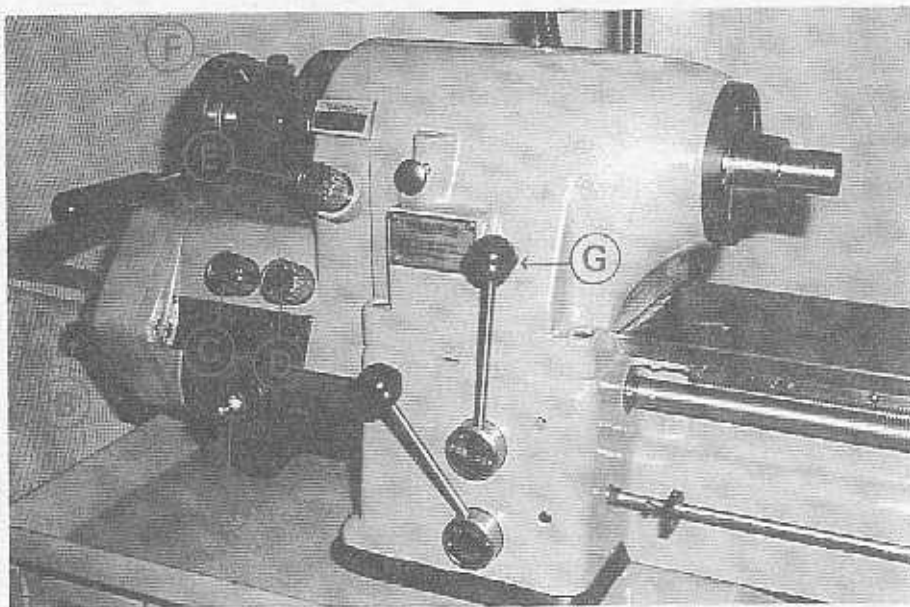
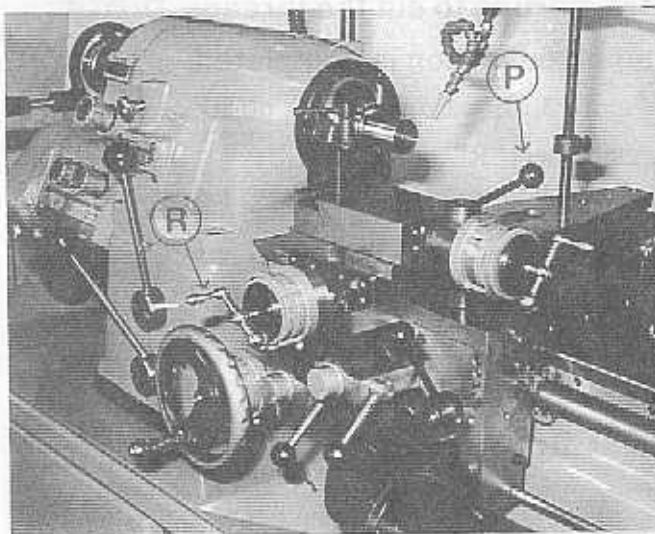
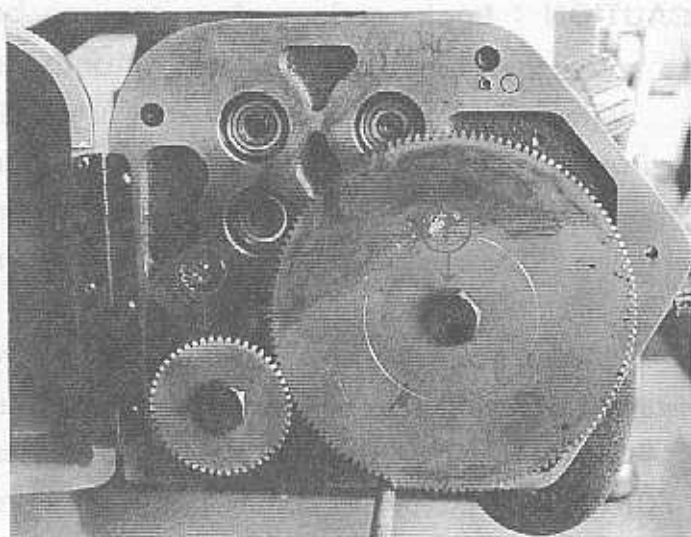

Figure 1 - Headstock and Gearbox
Figure 3 - Carriage and Compound Slide
Figure 4 - Threading Gearbox
Set the quick-change gearbox for desired pitch. To make a selection on the gearbox thread chart, pull the spring-pressured knob "A", Figure 1, out as far as it will go and lower it until it will move sideways to the desired notch directly under the thread required. Raise the handle and let plunger drop into hole. If tumbler handle will not raise for enough to position plunger into hole, loosen knob "S", open gear box door and rotate gear "T", Figure 4, until gears mesh and handle raises, permitting plunger to seat.
Set three-change knob "C", Figure 1, for number corresponding to left side of gearbox thread chart. Set knob "C" so desired number is in bottom position in line with arrow. If the sliding gear cluster does not engage the other gears in gearbox properly to bring the desired number on three-change knob "C" in line with arrow, loosen knob "B", open gearbox door and rotate gear "T", Figure 4, until gear mesh.
Set English /Metric knob "D", Figure 1, so thread system to be cut reads at top of knob, If the sliding gear does not engage properly to bring desired system to read at top, loosen knob "B", open gearbox door and rotate gear "T", Figure 4, until gears mesh and knob is felt to engage detent.
Engage gearbox by turning knob "E", Figure 1, counterclockwise in the direction of arrow marked "THREAD". When turning knob "E", the teeth of the sliding gear within the gearbox may not mesh with the headstock spindle gear teeth. If this is the case, turn headstock spindle with handwheel "F" while turning knob "E" to left until definite click is heard.
Carriage control lever "G", Figure 1, when moved to the left, will cause carriage to move to the left. When the carriage control lever is moved to the right, the carriage will move to the right. Carriage travel can be stopped at any time by placing control lever "G" in center position.
With carriage at rest and quick-acting handle "P" Figure 3, forward in cutting position, feed the desired amount for each threading pass using cross slide handwheel "R".
Move lever "G", Figure 1, to the left and carriage will travel until it contacts stop at headstock end of machine. The headstock spindle will continue to run. Carriage stops cause only the gearbox, lead98 screw and carriage to stop.
After each pass, withdraw threading tool from work with quick-acting handle "P", Figure 3, and return carriage to starting position by moving carriage control lever "G", Figure 1, to the right.
### **BEFORE SETTING UP CHANGE GEARS, PLACE KNOB "A", FIGURE 1, IN THE "OUT" POSITION**
4. Loosen knob "S", Figure 1, open gearbox door and remove 50 tooth gear "S", Figure 4, and 127 tooth gear "T". Do not misplace key under 50 tooth gear.
13. Close gearbox door, tighten knob "B", Figure 1, and turn three-change knob "C" to position specified on chart.
16. Follow same procedures for setting carriage stops lead screw nut and compound slide as when cutting threads from the gearbox. Use of carriage control level "G", Figure 1, and quick-acting handle "P", Figure 3, will also be the same as when cutting threads from the gearbox.
**NOTE :** (a) 50 tooth gear "S", Figure 4, and 127 tooth gear "T" must be remounted (without bracket) to obtain metric thread pitches through gearbox.
3. Loosen knob "B", Figure 1, open gearbox door and remove 127 tooth gear "T", Figure 4.
15. Follow same procedures for setting carriage stop, lead screw nut and compound slide as when cutting threads from the gearbox. Use of carriage control lever "G", Figure 1, and quick-acting handle "P", Figure 3, will also be the same as when cutting threads from the gearbox.
- NOTE :** (a) 50 tooth gear "S", Figure 4, and 127 tooth gear "T" must be remounted without bracket to obtain metric thread pitches through gearbox.